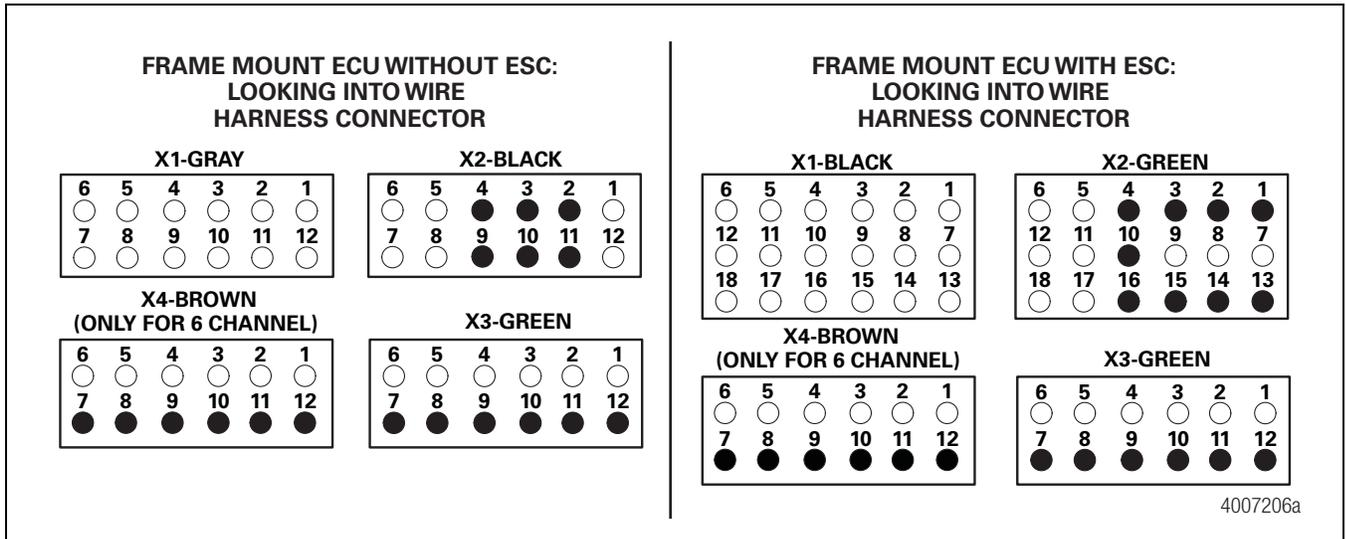

Figure 3.19
- Check ECU harness and modulator valve together for resistance. Figure 3.18 and Figure 3.19.